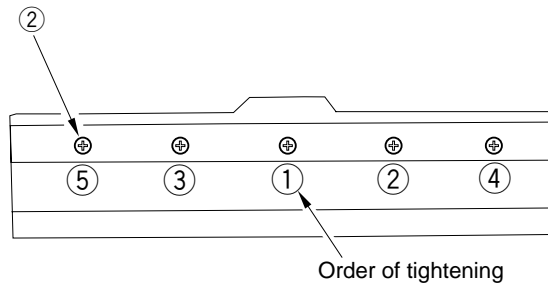

Figure 4-353
- 2) Lightly tighten the five mounting screws ② and stop turning them when resistance is felt, thereby fixing the cleaning blade in place temporarily.
- 3) Turn the screws fully (20° to 30°) in the order shown in Figure 4-353.